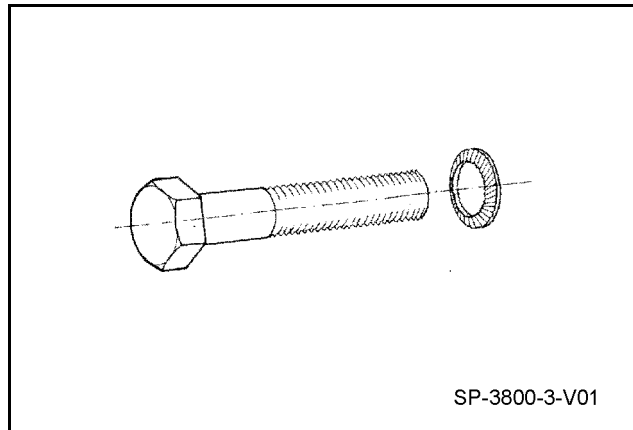

Fig. 201
- Only use new, original safety discs to fasten the pumping pistons. The smaller disc diameter has to face towards the screw head (**Fig. 201**).